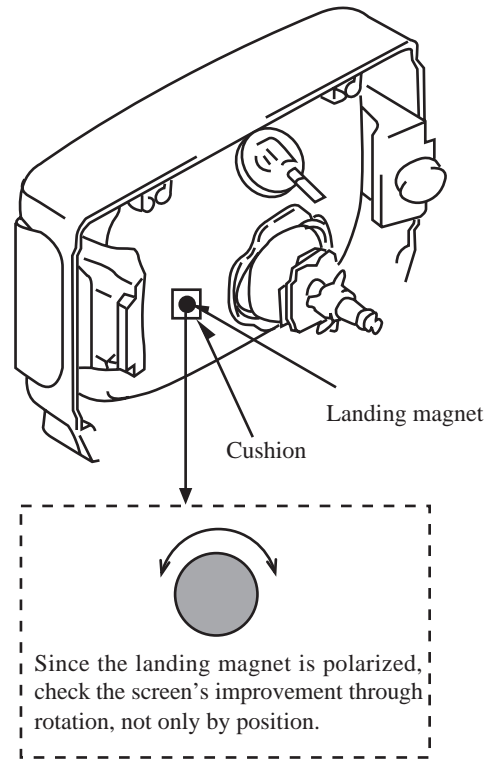

Fig 1-6
- ✧ If the color irregularity in the screen's corner section are not improved, correct them with the landing magnet. After using the landing magnet, be sure to demagnetize the CRT with degausser and verify that there is no occurrence of color irregularity. (refer to Fig. 1-6)